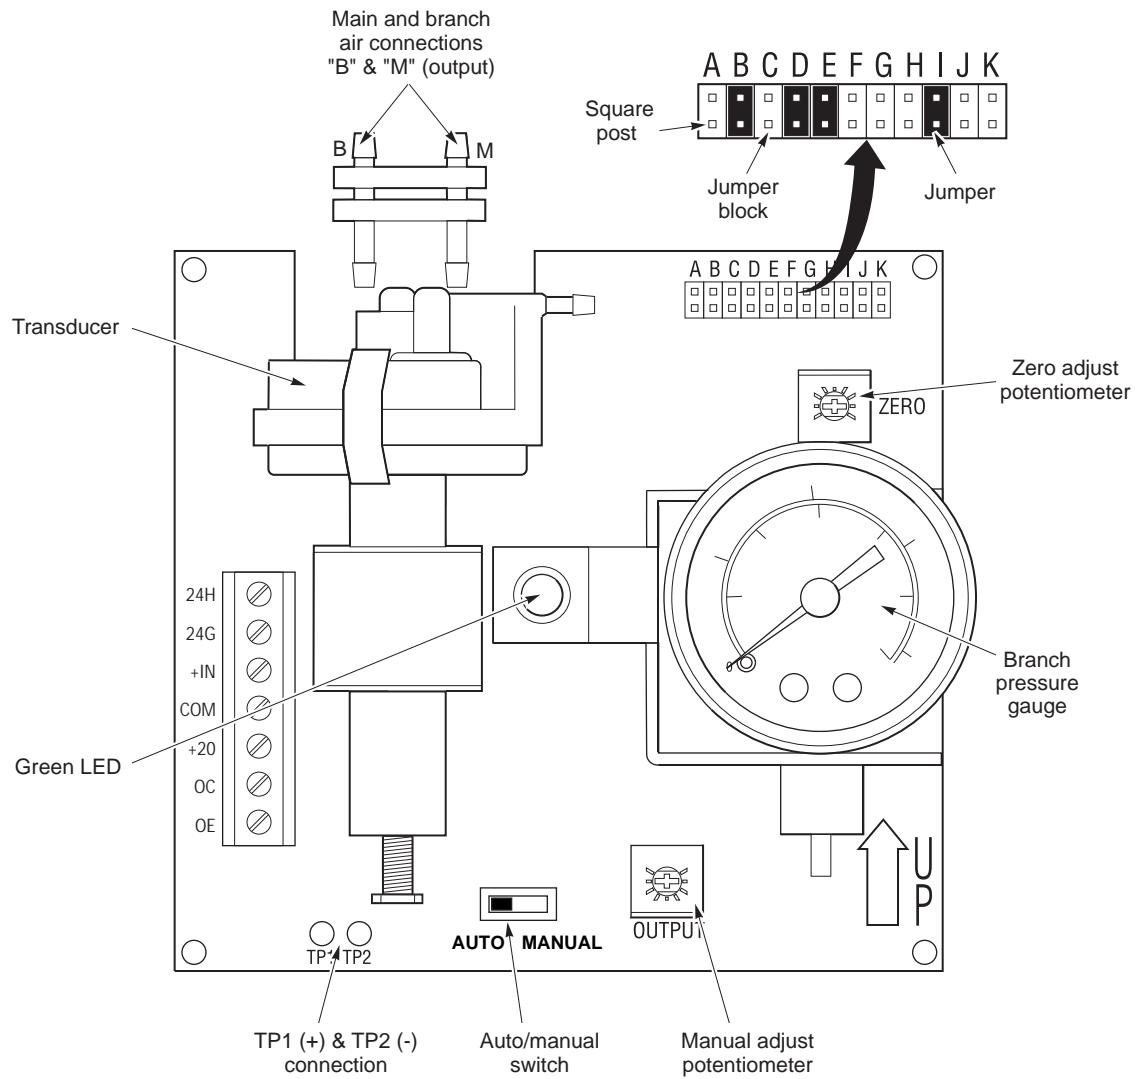

Figure-2 CP-8511 Interior View with Sample Jumper Block Arrangement.
**Caution:** The CP-8511 must be mounted within 5° of the upright position (refer to "UP" arrow on circuit board in Figure-2 ).
- Refer to Figure-2 for an example of correct jumper arrangement for 4 to 20 mA input, Direct Acting.
- Jumper must span vertical width of jumper block (Figure-2 ).
3. Connect 20 psig (138 kPa) main air to port "M" (Figure-2 ).
4. Connect a suitable pneumatic device to port "B" (Figure-2 ).
5. Apply power to the unit. The green LED should be illuminated when the Auto/Manual switch is set to "Auto" (Figure-2 ).
7. Use a digital voltmeter to measure the voltage between TP1 (+) and TP2 (-) (Figure-2 ).
9. Set Auto/Manual switch to "Auto" (Figure-2 ).
1. Verify that the unit is mounted upright (Figure-2 ) and wired per the job wiring diagram.
5. Verify the presence of output pressures by attaching a separate pressure gauge to port "B" (Figure-2 ).